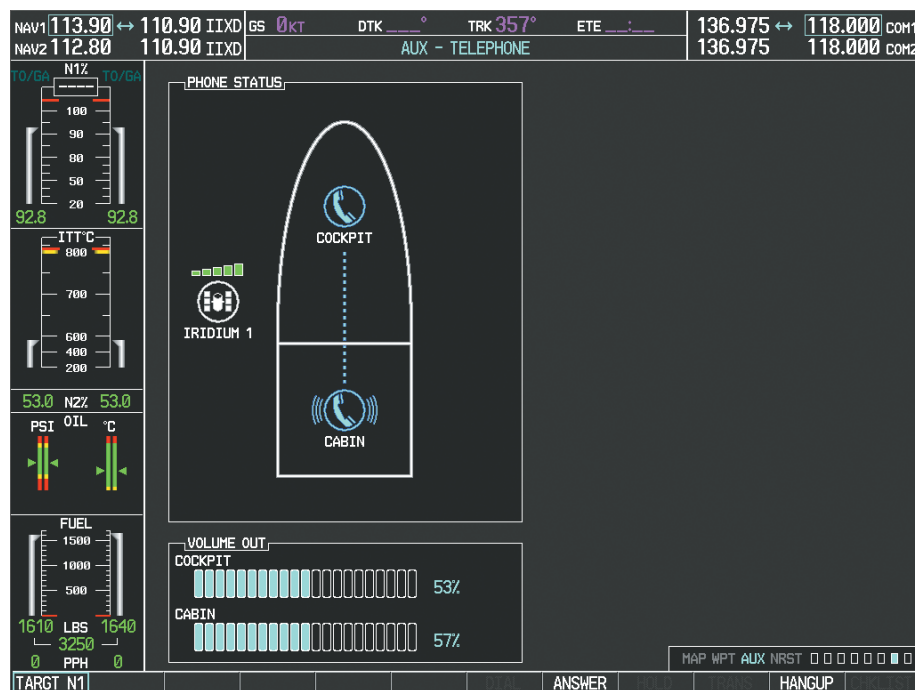

Figure 8-79 Cabin Phone Ringing
- 4) Press the **ENT** Key again. The cabin phone will now be ringing as seen in Figure 8-79.